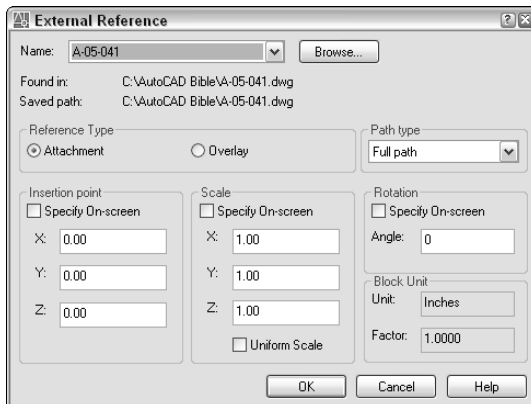

Figure 19-2: The External Reference dialog box.
2. To attach an external reference, choose Attach in the Xref Manager to open the Select Reference File dialog box. (You can get to this dialog box directly using the XATTACH command.) Choose the file you want to attach and click Open. The External Reference dialog box (shown in Figure 19-2) opens. The dialog box displays the file that you chose along with its path (location).